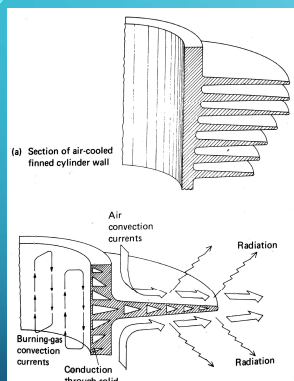

Fig. 1 Finned cylinder wall
- Refer Fig. 1. **Radial ribs or fins** are used to increase the external surface area of the cylinder so as to transfer heat from the cylinder to the surrounding atmosphere.